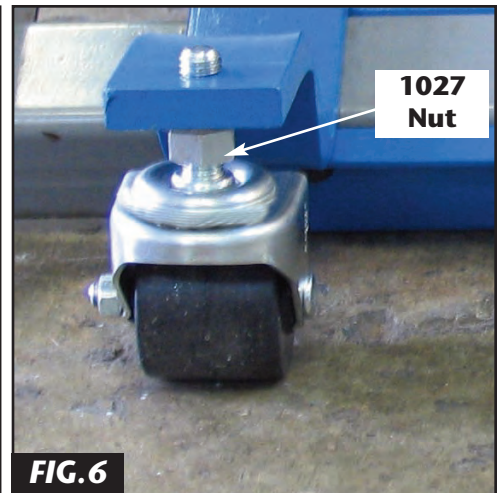

FIG.6
8. With your 3/4" wrench turn the lower caster nut out. This will move caster down to the floor. Stop turning the caster stud out just as the caster wheels makes contact with the floor. **See Fig 6.**